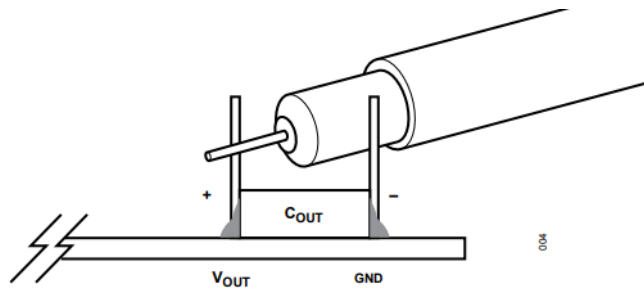

Figure 4. Scope Probe Placement for Measuring Input or Output Ripple Voltage
- To measure the input/output voltage ripples properly, do not use the long ground lead on the oscilloscope probe. See Figure 4 for the proper probing technique of input/output voltage ripples. Short, stiff leads need to be soldered to the (+) and (–) terminals of an input or output capacitor. The probe's ground ring needs to touch